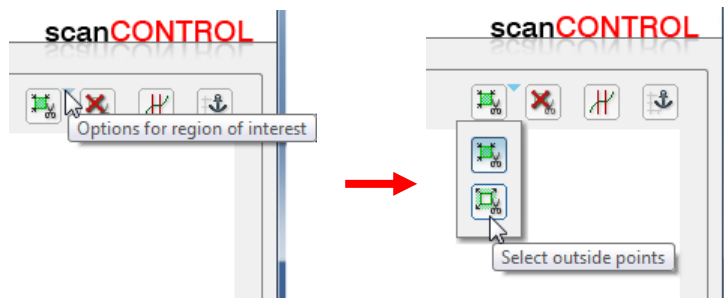

Fig. 3.28: "Set region of interest" button
- Open the "Options for region of interest" context menu. To do this, press the corresponding button located right to the "Set region of interest" button (see Fig. 3.28)
- Use the context menu to select the desired mode (see Fig. 3.28)